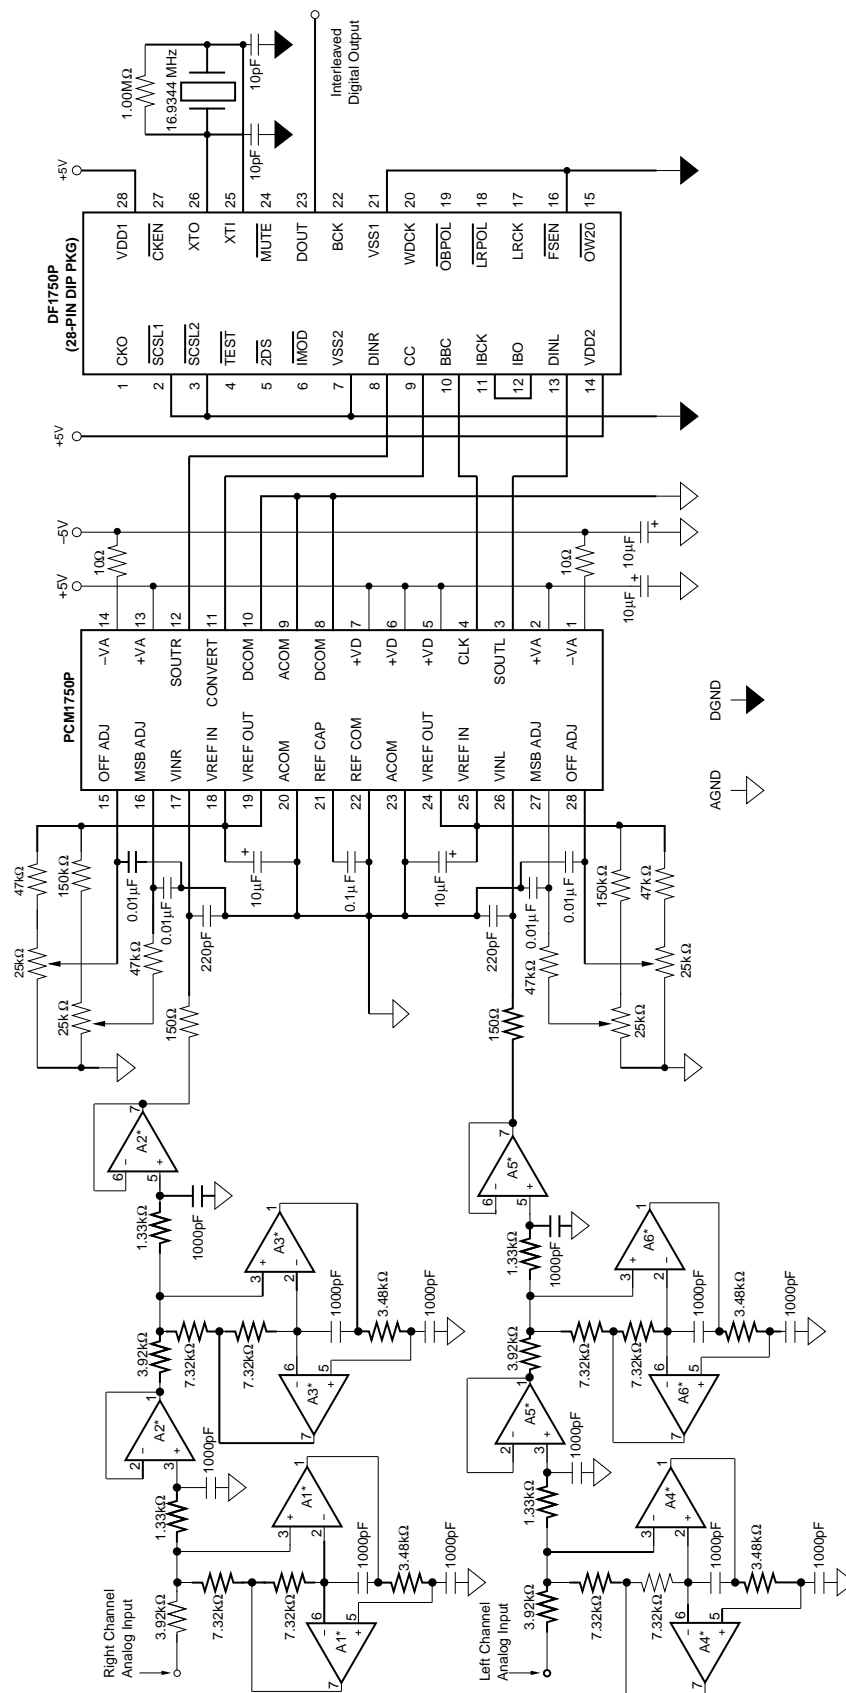

FIGURE 9. Complete Sampling A/D Circuit with Anti-aliasing and Digital Filter, (44.1kHz output data rate).
To prevent unwanted input signals from being aliased into the passband of the converter, it is necessary to suppress all out of band signals above 1/2 the sampling frequency of the ADC by using a low-pass filter. The requirement for an anti-aliasing filter, however, can be reduced by using oversampling techniques. By raising the sample rate of the converter by a factor of 2 or even 4, the roll off of the anti-aliasing filter can be reduced. In Figure 9, a 6th order, linear-phase, anti-aliasing filter is implemented using low-cost dual audio op amps. This filter will suppress frequencies above 96kHz by 80dB. For many applications a 4th or 2nd order anti-aliasing filter will be adequate when using the PCM1750 in the 4x oversampling mode.
Figure 9 is a partial schematic of the demonstration fixture for the PCM1750 (orderable by model number DEM1133). It shows the implementation of (1) a 6th order, linear-phase, anti-aliasing filter (22kHz low-pass); (2) the PCM1750P A/D converter; and (3) a 4x digital decimation filter called